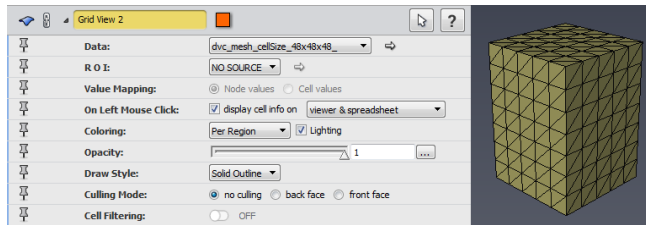

Figure 19.11: Grid View Module Properties and Tetrahedral Grid Visualization
- Visualize the mesh by attaching a *Grid View* module to the created mesh `dvc_mesh_cellSize_48x48x48_`. Set the *Draw Style* port to *Solid Outline* to visualize the elements (see Figure 19.11).